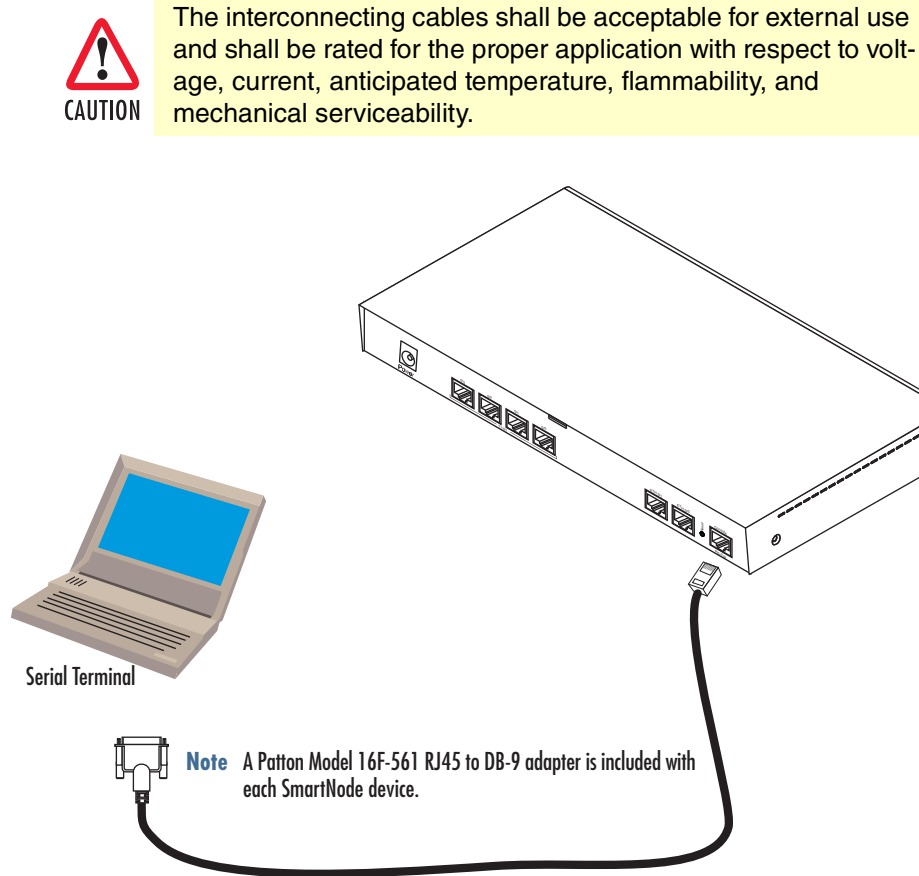

Figure 11. Connecting a serial terminal
The SmartNode can be connected to a serial terminal over its serial console port, as depicted in Figure 11.
**Note** For the 3rd Ethernet port (ETH0/2), only figure 11 below applies. There is no 1000Base-T (Gigabit) Ethernet support on (ETH0/2).